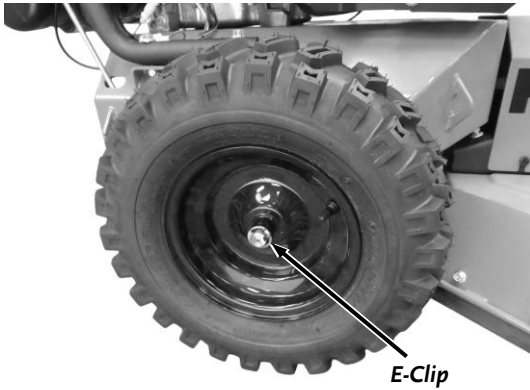

Figure 52
1. Jack up the rear of the machine and remove the e-clips securing the wheels to axle. Remove the Wheels (**Figure 52**).